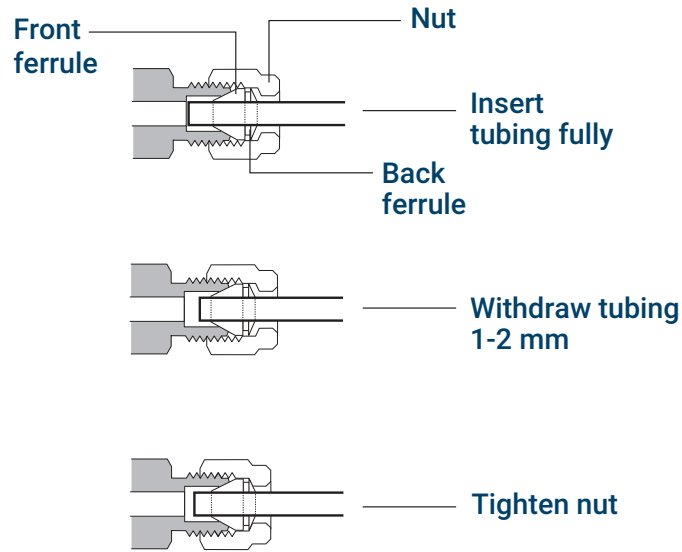

Figure 19. Insert the tubing
4. Push the tube fully into the plug, then withdraw it approximately 1 to 2 mm. See **Figure 19**.